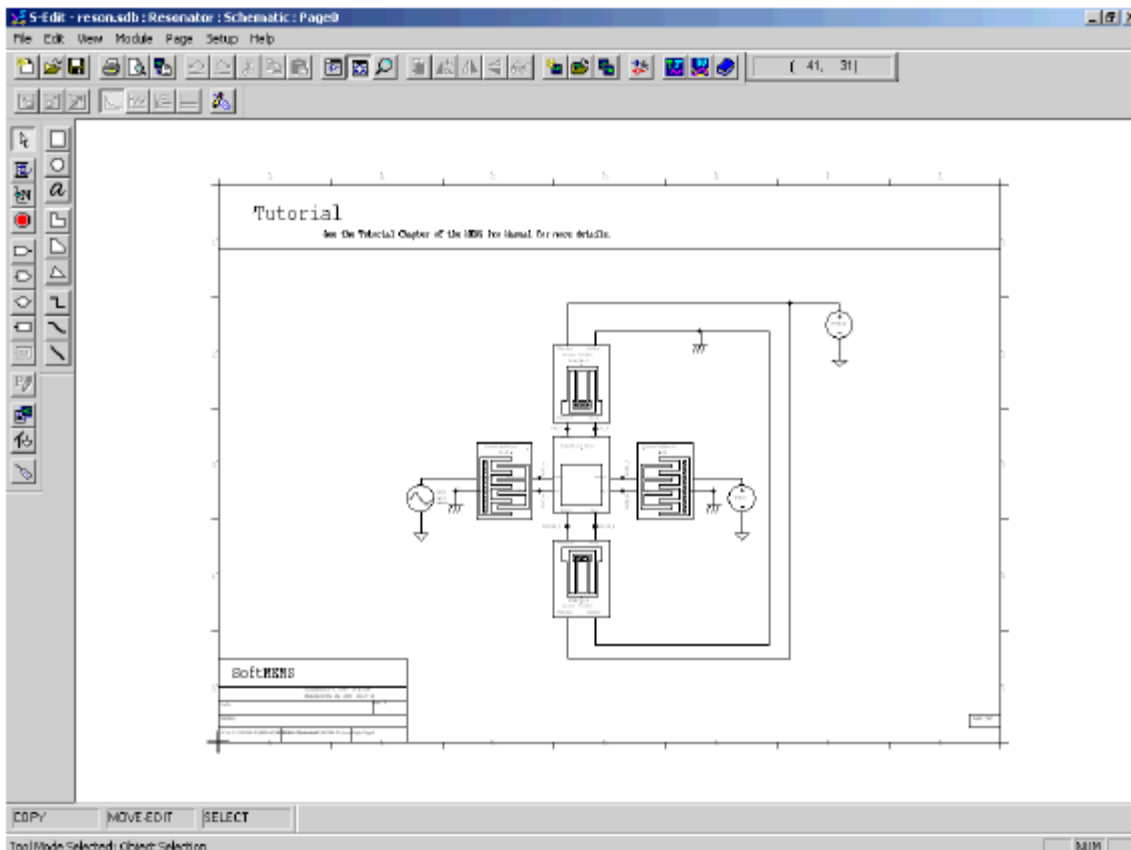

Figure 1: Schematic view of the complete resonator
The schematic view of the resonator appears in Figure 1.
- ✂ Compare your design to the complete design in Figure 1 to make sure you have placed the voltage sources correctly.
- ✂ Compare your wiring to the completed schematic presented in Figure 1.
- ✂ Compare your design to the complete design presented in Figure 1 to make sure the resonator has been wired correctly.